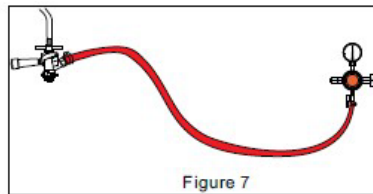

Figure 7
- b. Connect the ends of the red CO2 tube respectively to the CO2 intake port of the mixed ball valve and the round outlet of the CO2 regulator valve. Lock these connections firmly with the two clamps on the red CO2 tube (See Figure 7).